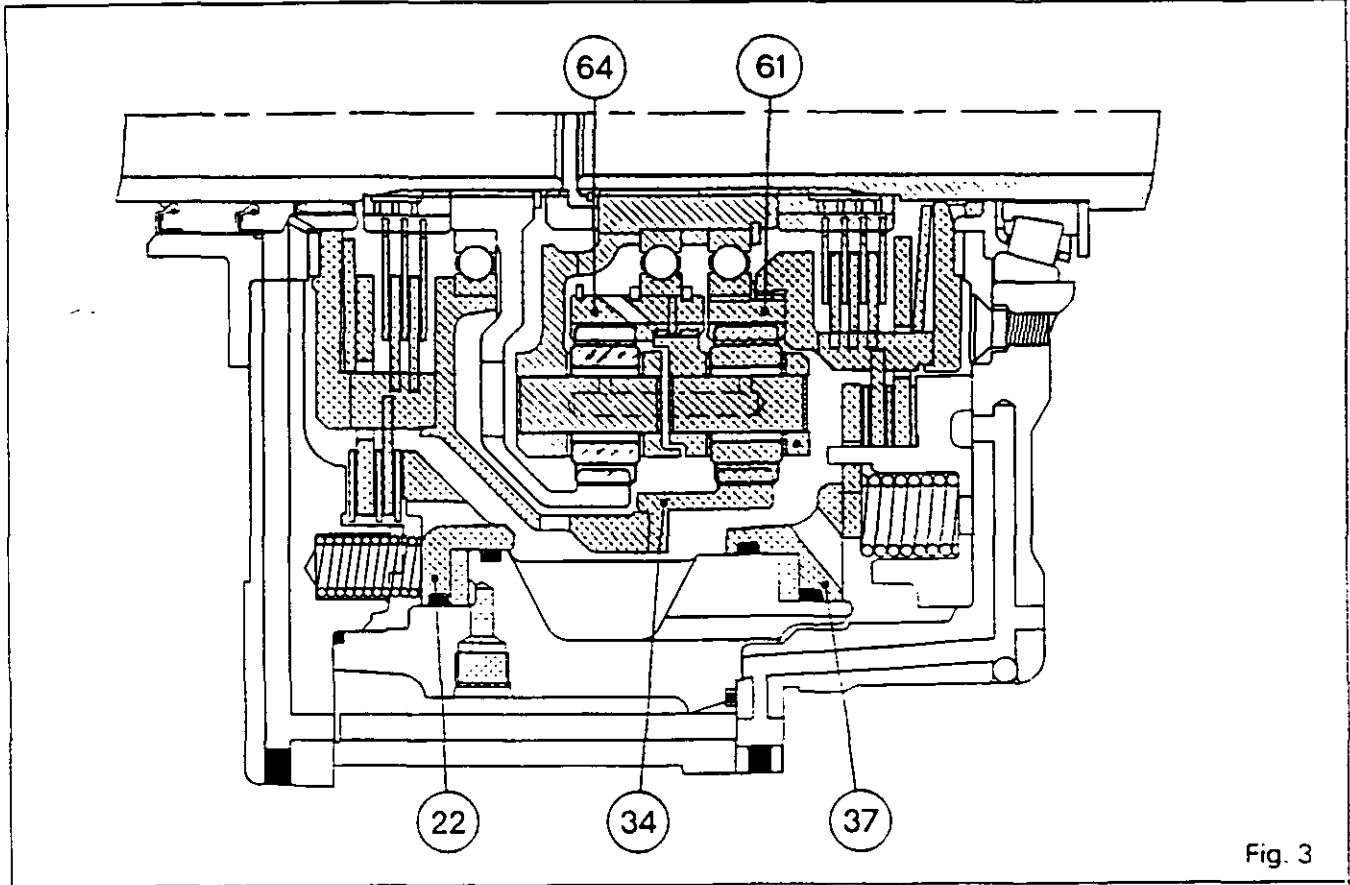

Fig. 3
- (70) Thrust plate
- (71) Shim(s)
- (72) Retaining ring
- (73) O-ring
- (74) Plug
- (75) Oil deflector
- (76) Ball
- (77) Wide seal (serie 3100)
**Ratio A = 1:1.620 reduction (Fig. 3)**